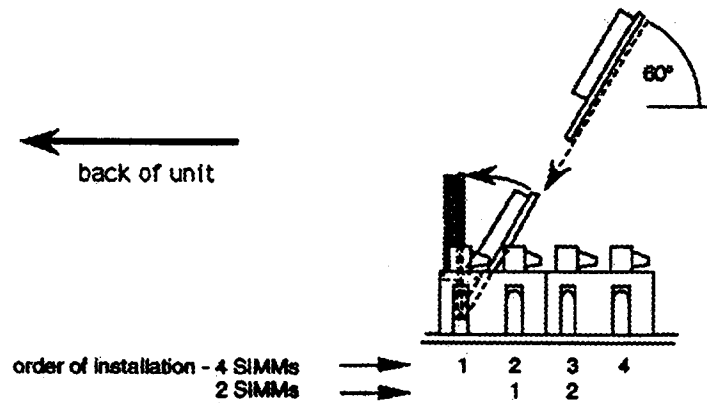

Figure 2.12 - SIMM Installation
- Insert a SIMM into the proper socket at a 60° angle (Figure 2.12).